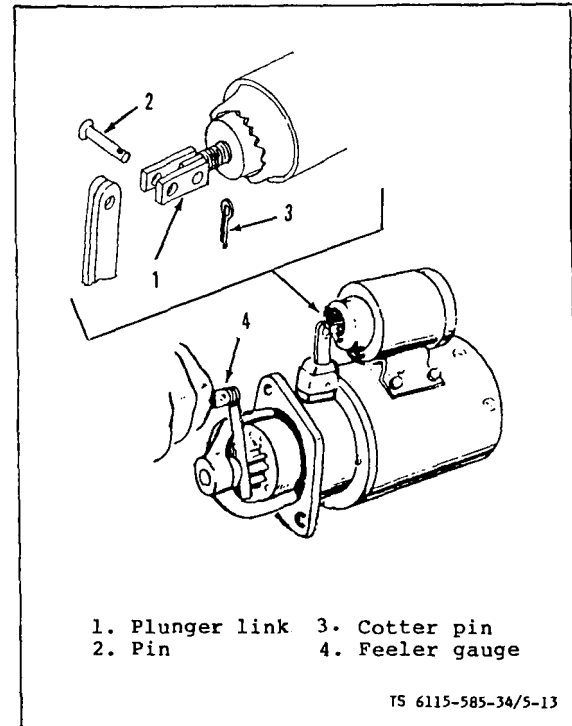

Figure 5-13 Checking Pinion Clearance
(2) Check pinion gear clearance. See figure 5-13. Proper clearance is important to insure starter engagement. To check, press on solenoid plunger to shift pinion gear into full mesh position. While holding plunger in, measure clearance with feeler gauge (4) between pinion gear and step. The proper clearance is 0.096 +0.030/-0.020 inch. Adjust clearance by turning solenoid plunger link (1) in to decrease gap, or out to increase the gap. See figure 5-13 cutaway view. Reinstall the pin (2) and cotter pin (3) securing plunger link (1) to yoke.